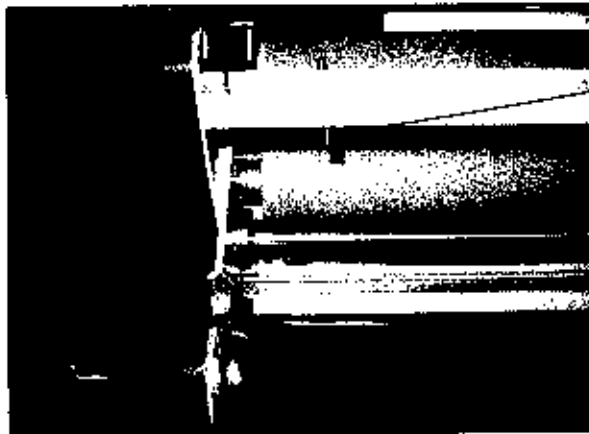

**Fig. 5-3. Emergency Stop Button (Artic Titan 1064 WF c Only)**
**Emergency Stop Button (Figure 5-3)**